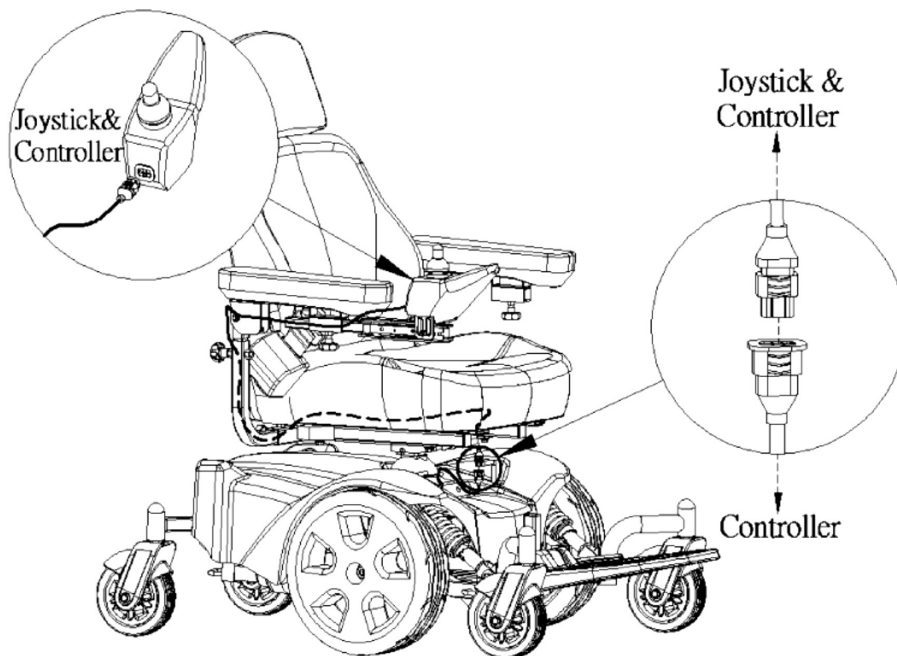

Figure 16. Controller connects
8. Connect the controller harness to the power base and joystick. (See figure 16)